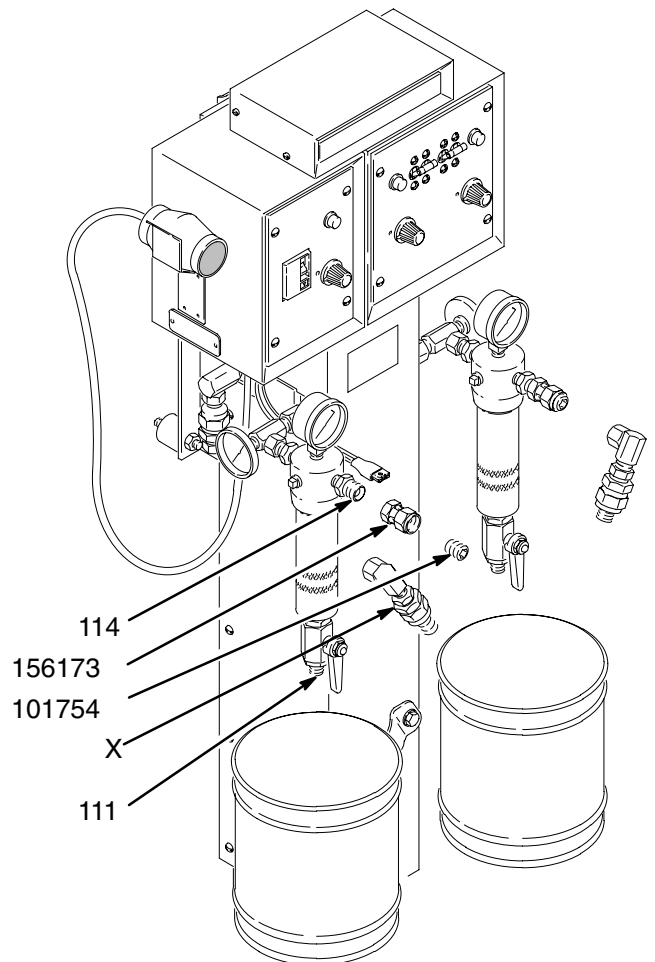

Fig. 4
3. Remove the outlet fittings (X) from both fluid filter outlet nipples (114).
4. Plug each outlet nipple (114) with a swivel (P/N 156173) and plug (P/N 101754). These parts are shown exploded on the left side of Fig. 4 and assembled on the right side of Fig. 4.
6. Open the filter drain valve (111). Have a waste container ready to catch the draining solvent.